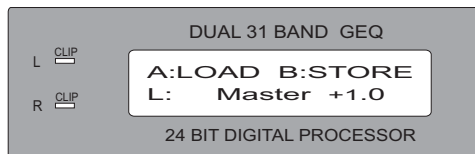
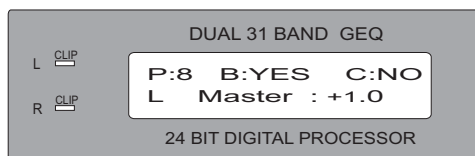

Fig.2 Select/save program memory
Fig.3 Select/program memory sequence
2. While LCD display the main menu, press button 3 to display information as Fig. 2, press 3 again to select A for LOADING memory process from P: 1~100. As shown in Fig. 3 (if select 4 during Fig 2 process) : means to select B, user is able to store and save present data to any program P: 1~100. Program sequence is selectable by rotary jig wheel from P: 1~100 (as Fig. 3).